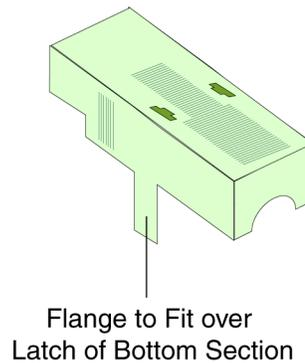
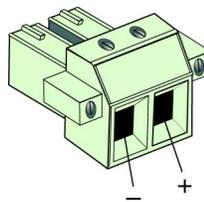
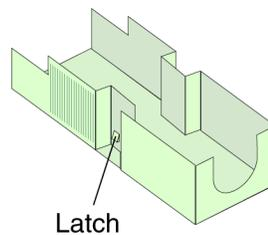

Figure 2-1. Top Section of Connector Shell
Figure 2-2. DC Power Connector
Figure 2-3. Bottom Section of Connector Shell
- If you ordered a BANDIT III that uses DC input power: A DC power connection set (Figure 2-1, Figure 2-2, and Figure 2-3)
Note: The top and bottom sections of the shell differ. The top section (recall Figure 2-1) has flanges to fit against the bottom section's latches (recall Figure 2-3).